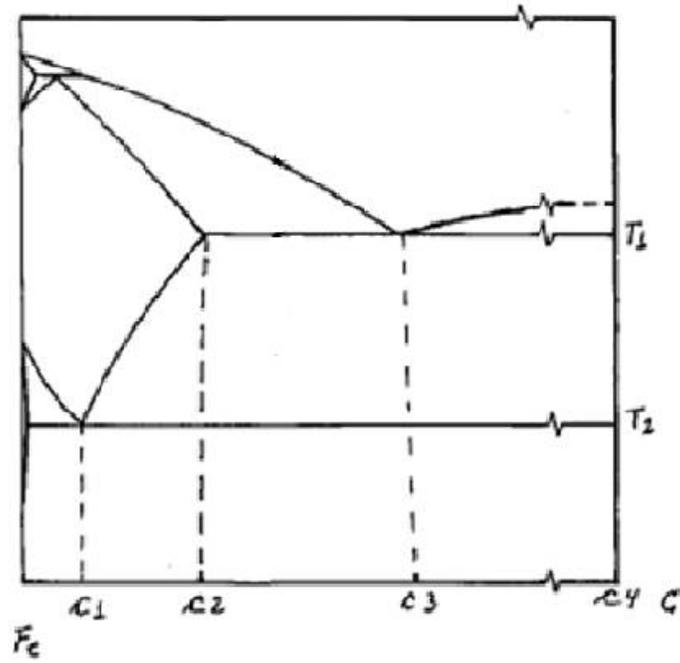

Fig. 3
**P4.-** Del diagrama de equilibrio Fe-C (Fig. 3)